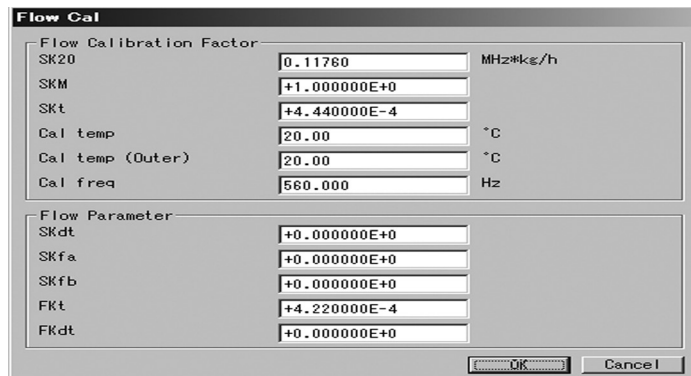

Fig.41
- ① Click on "Setup (S)" at top-level menu of the screen, select "Flow Cal" from "Charize sensor" drop-down list, and click on again.
- ② A message box as shown in Fig. 41 appears. At this window, the flow calibration factor is set up.